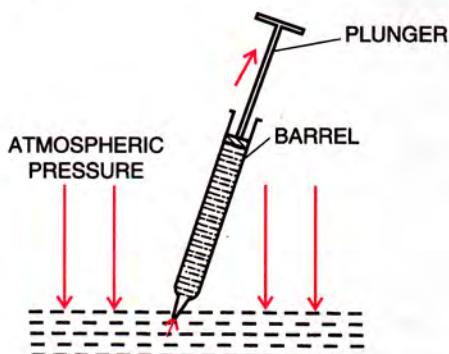

Fig. 4.15 Action of syringe
- (ii) Filling a syringe with a liquid :** When syringe is kept with its opening just inside a liquid and its plunger is pulled up in the barrel (Fig. 4.15), the pressure of air inside the barrel below the plunger becomes much less than the atmospheric pressure acting on the liquid. As a result, the atmospheric pressure forces the liquid to rise up in the syringe.